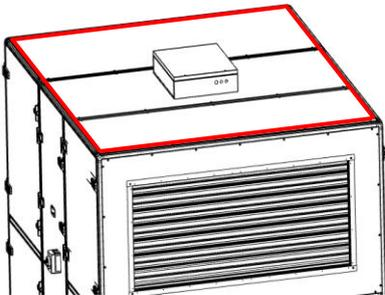

Fig. 127
2. Apply the gasket on the top of the unit (Fig. 127)